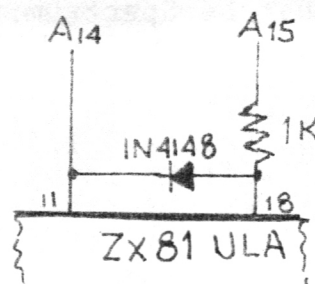

Fig. 2
- 6) ZX81 MEMORY EXPANSION: For those of you who have equipped your ZX81 with 64K or more memory and are bugged by the display file jumping all over the place the nifty circuit to the right (Fig. 2) will totally free up the 32K to 48K area for any of your machine code routines. Note that one trace to the ULA is broken so that the 1K resistor can be installed. The source of the tip is Swedish.